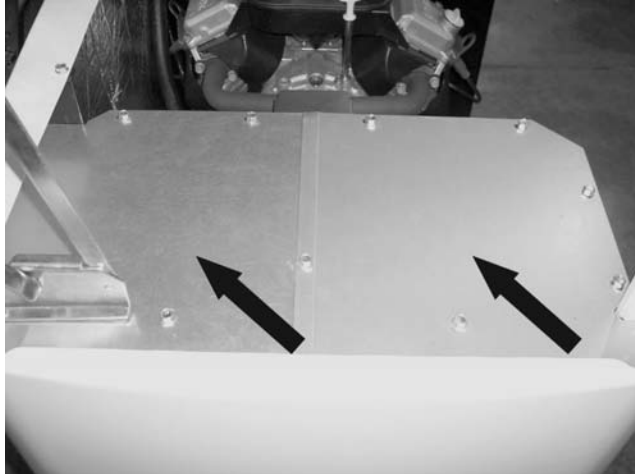

Figure 183. Remove 7.5 Amp Fuse
2. Remove the 7.5 amp main fuse. See Figure 183.